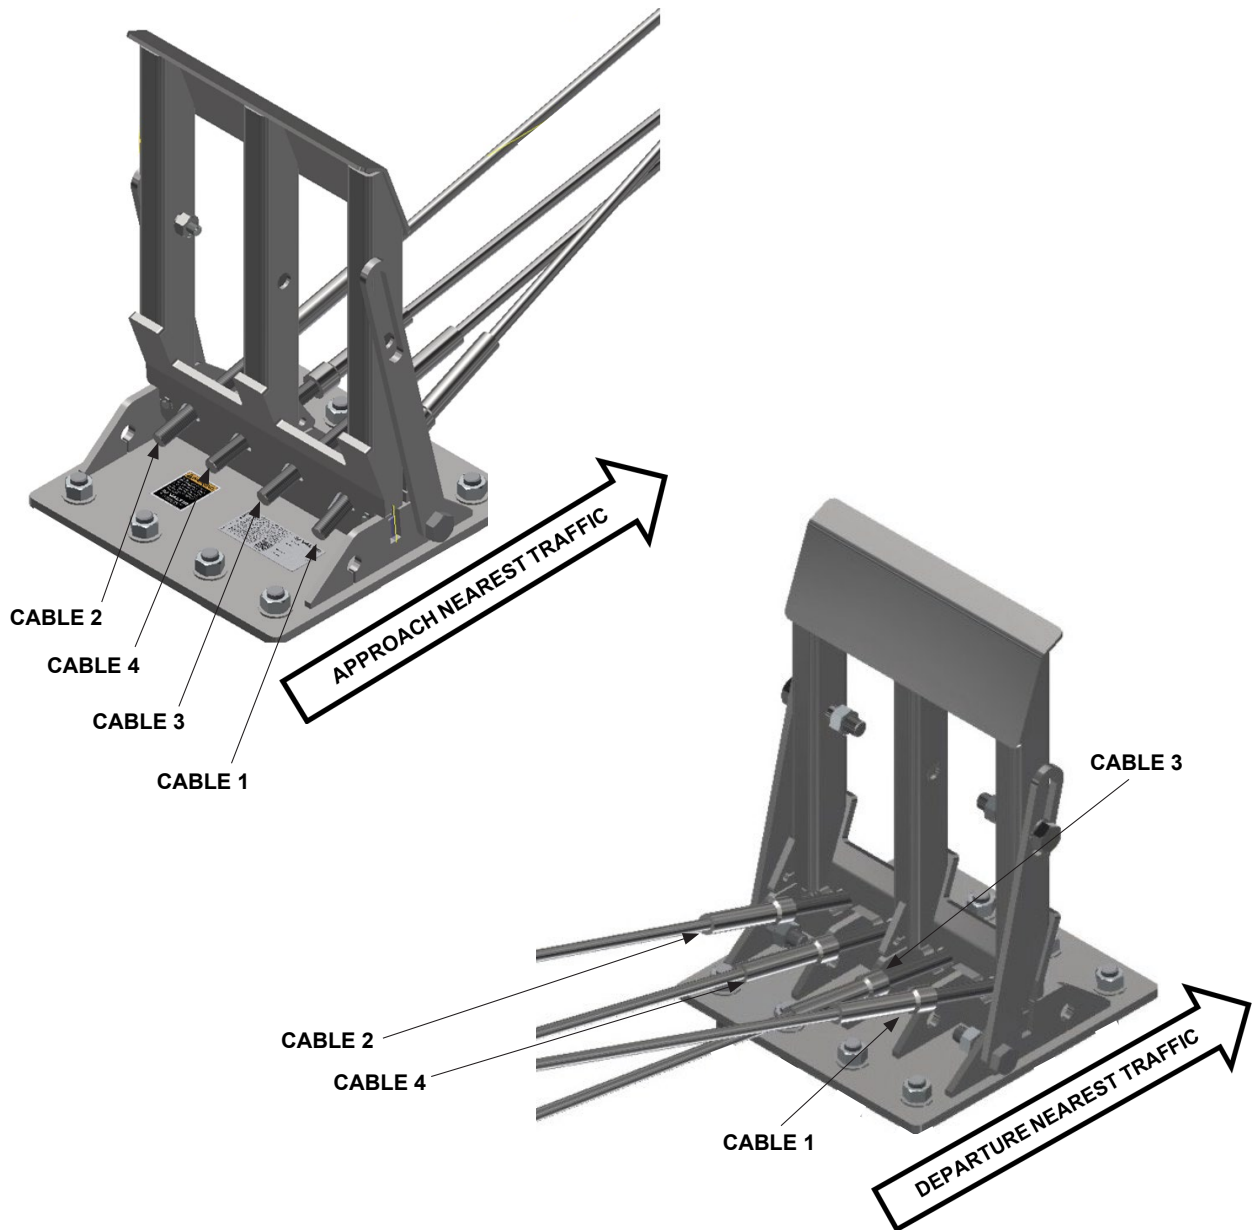

Figure 8
1. Lay out the four (4) x 105' [32 m] precut cables. The right-hand threaded end of the cables will be attached to the CET™ Anchor Assembly. See Figure 8 for the orientation of the cables for the approach end to the nearest traffic and departure end to the nearest traffic.